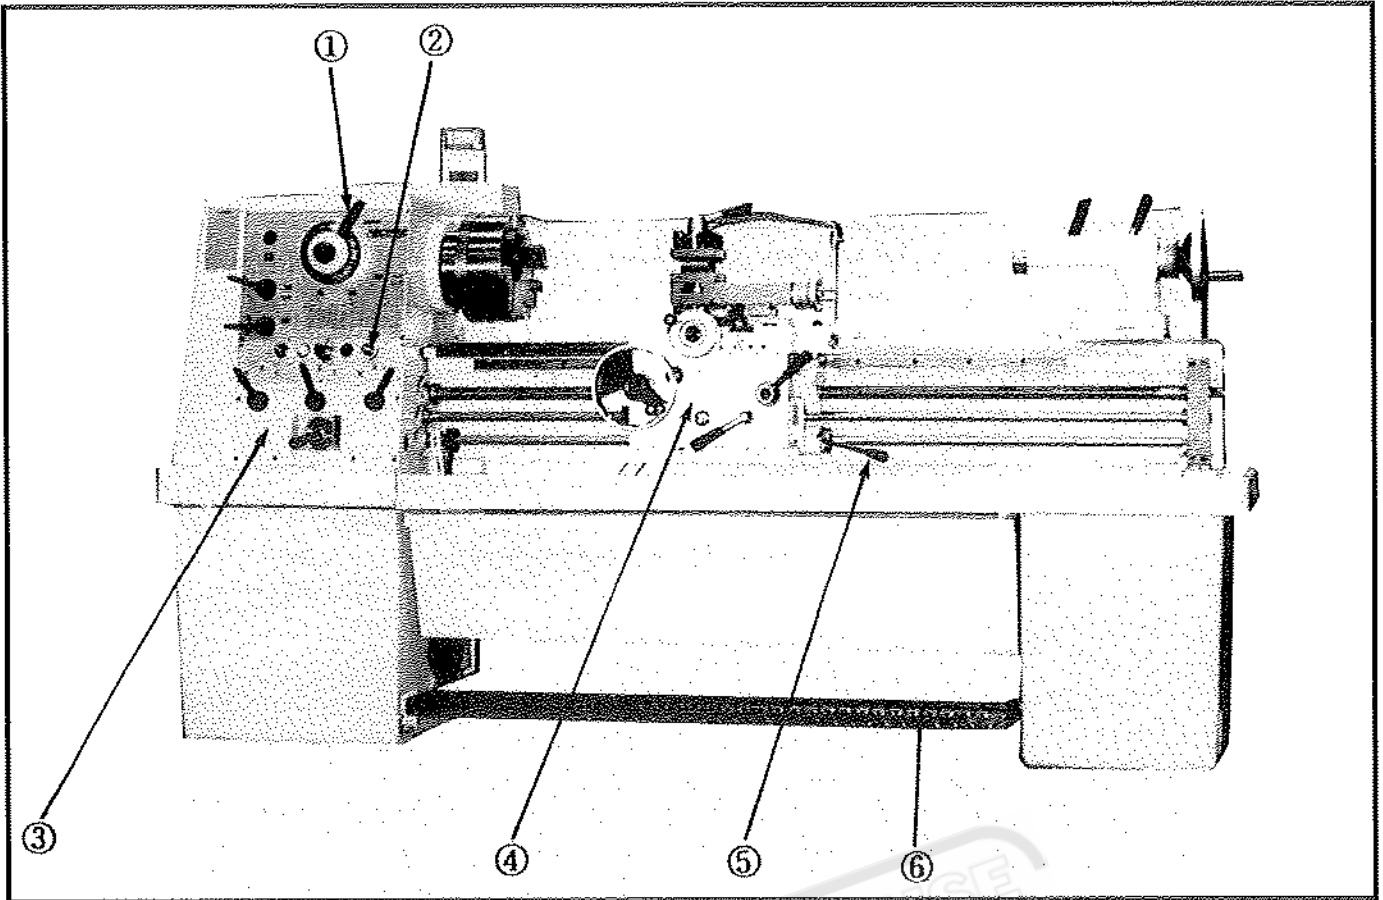

Fig.7
**LATHE CONTROLS (See Fig. 7)**